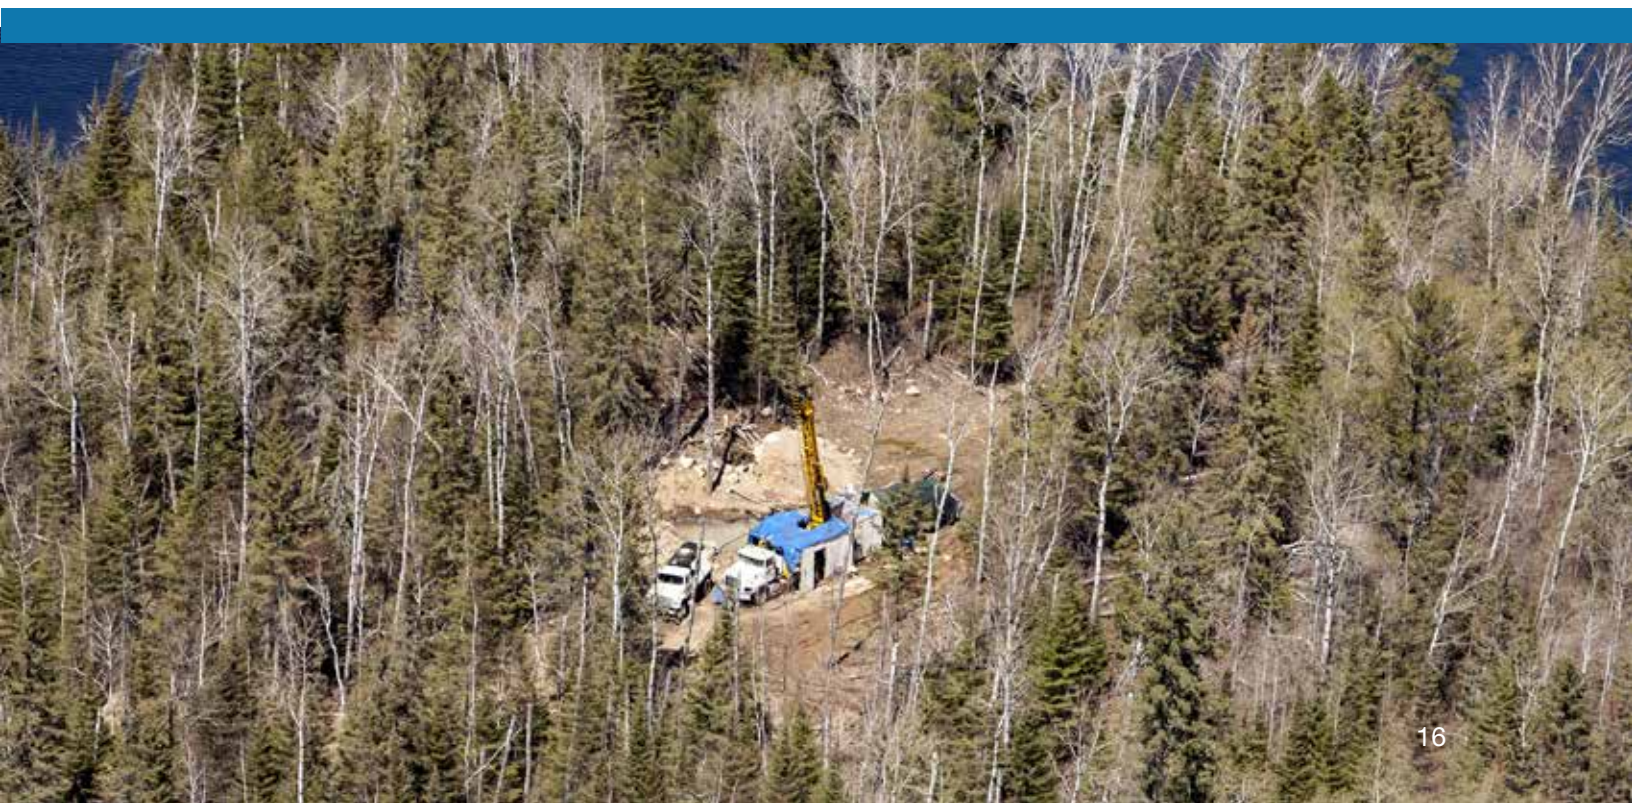

Figure 7: Casing extension for a drill hole.
- Temporarily abandoned drill holes must have watertight casing, a watertight cap on the top of the casing, and the casing must extend one foot above the ground surface and at least five feet above the regional flood level (Figure 7).
Exploration drill holes can be temporarily sealed, shown in Figure 7, for up to 10 years. When no additional information is needed from a drill hole, it is permanently abandoned according to State Rule 4727, which regulates the construction and sealing (either permanent or temporary) of exploratory borings and includes the requirement to submit sealing records to the MDH.